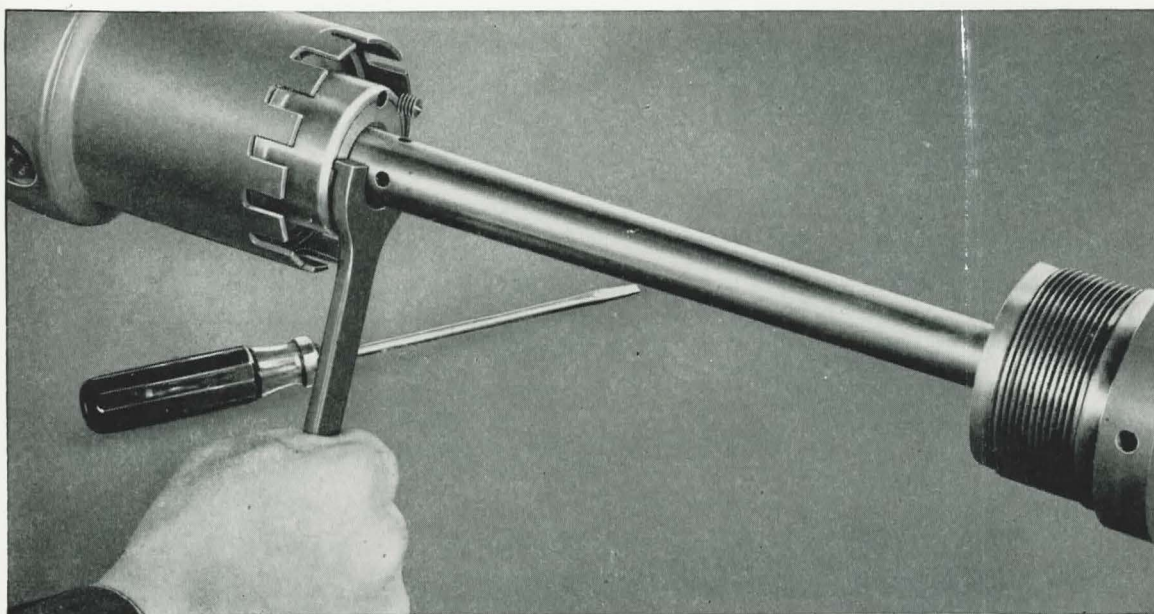

Figure 52
- (1) Push in the piston rod (298734-1).
- (2) Install the leather washer (298739-6) and the throttling rod assembly.
f. Tighten the throttling bushing, **Figure 52**, and install the locking screw.
- (1) With spanner wrench (298874-1), tighten the throttling bushing (298732-8) and install the locking screw (1/4"—20 x 5/16").